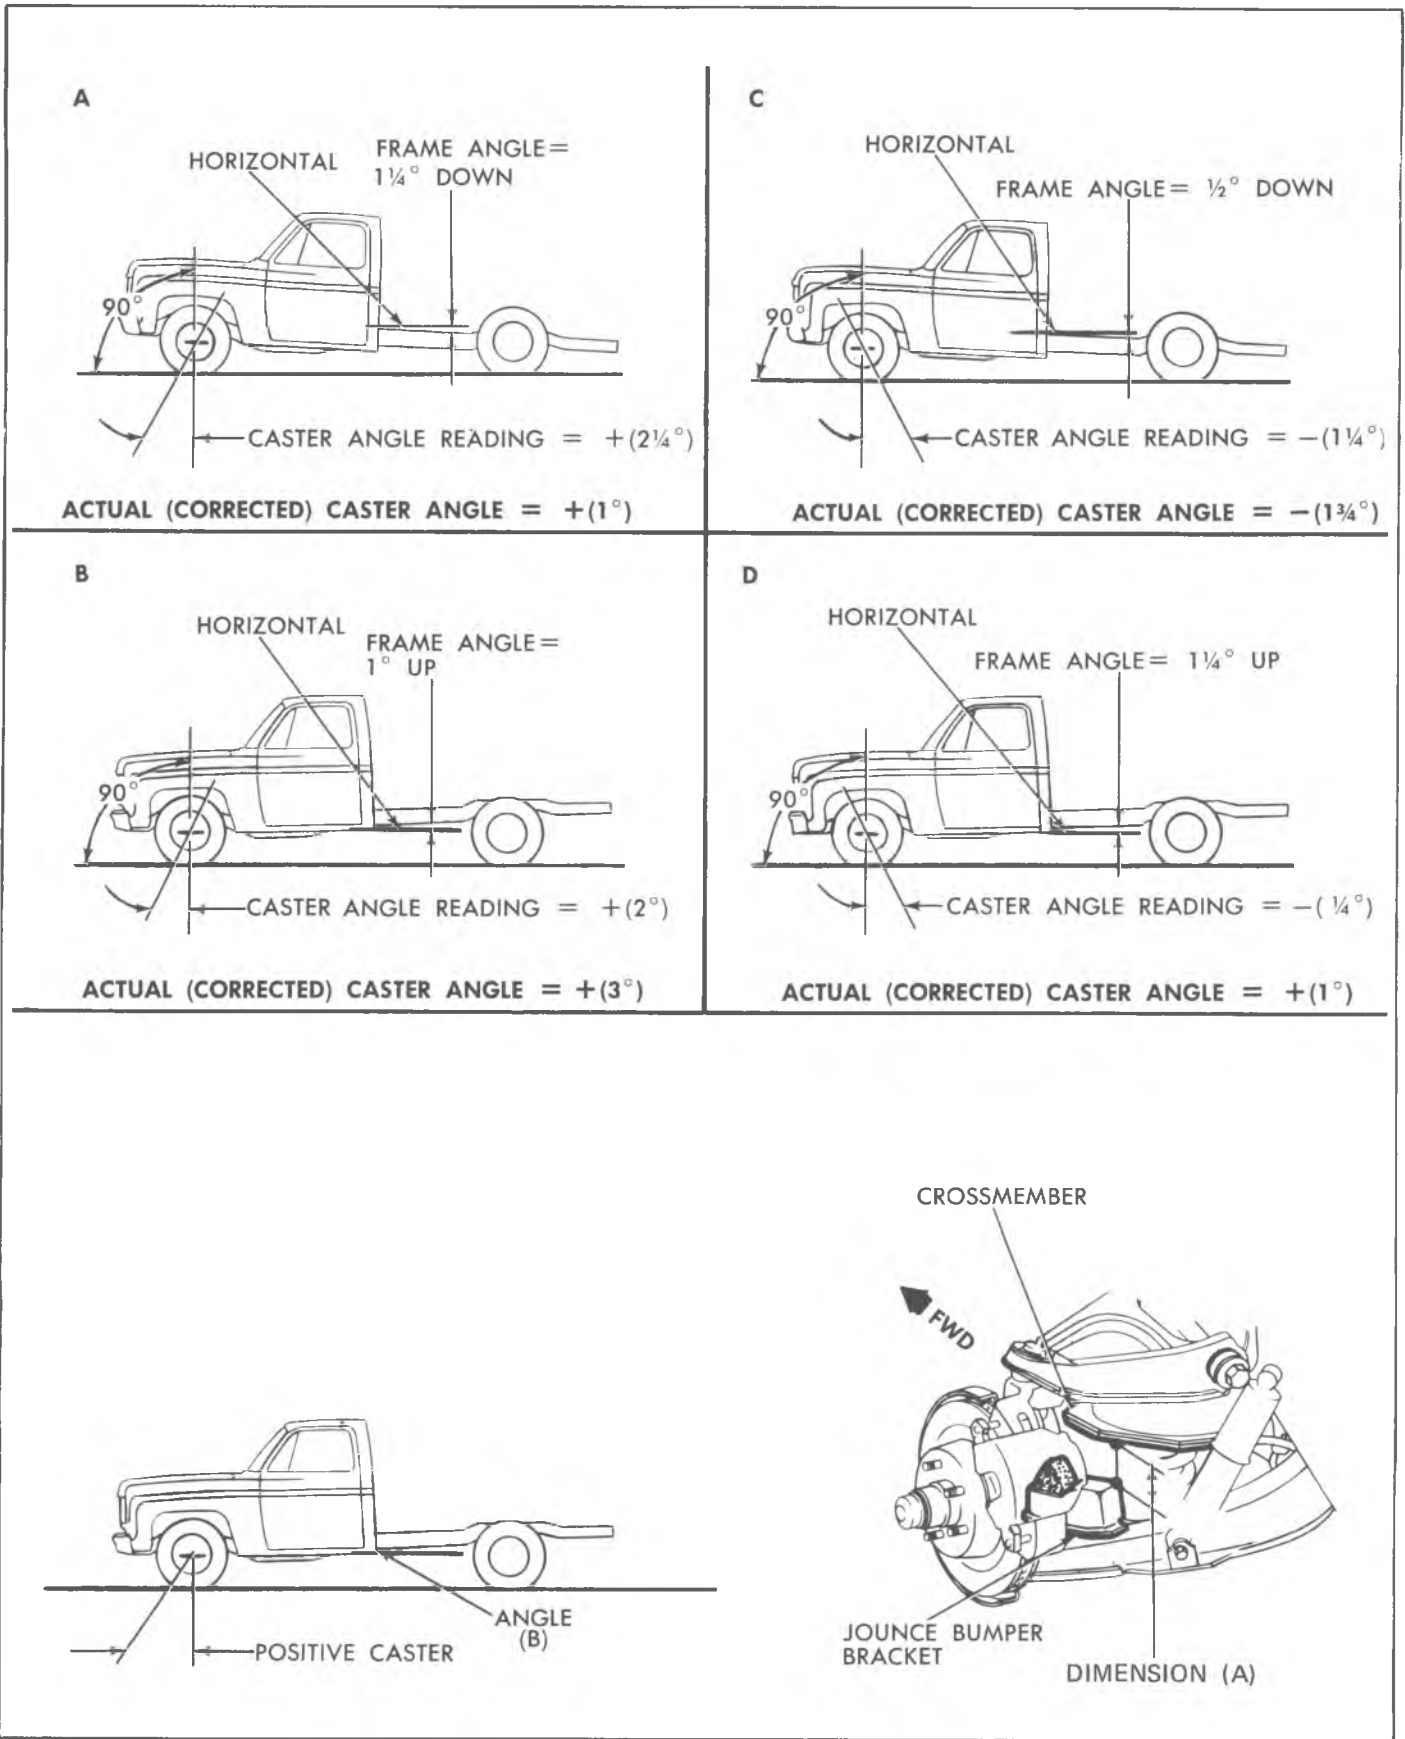

Fig. 19—Determining Caster - Typical (C Series Shown)
## Caster (Fig. 19)
1. With the vehicle on a level surface, determine the frame angle "B" in Fig. 19, using a bubble protractor or clinometer.
2. Draw yourself a graphic as in Fig. 19 that is representative of the frame angle (either "up" in rear or "down" in rear).